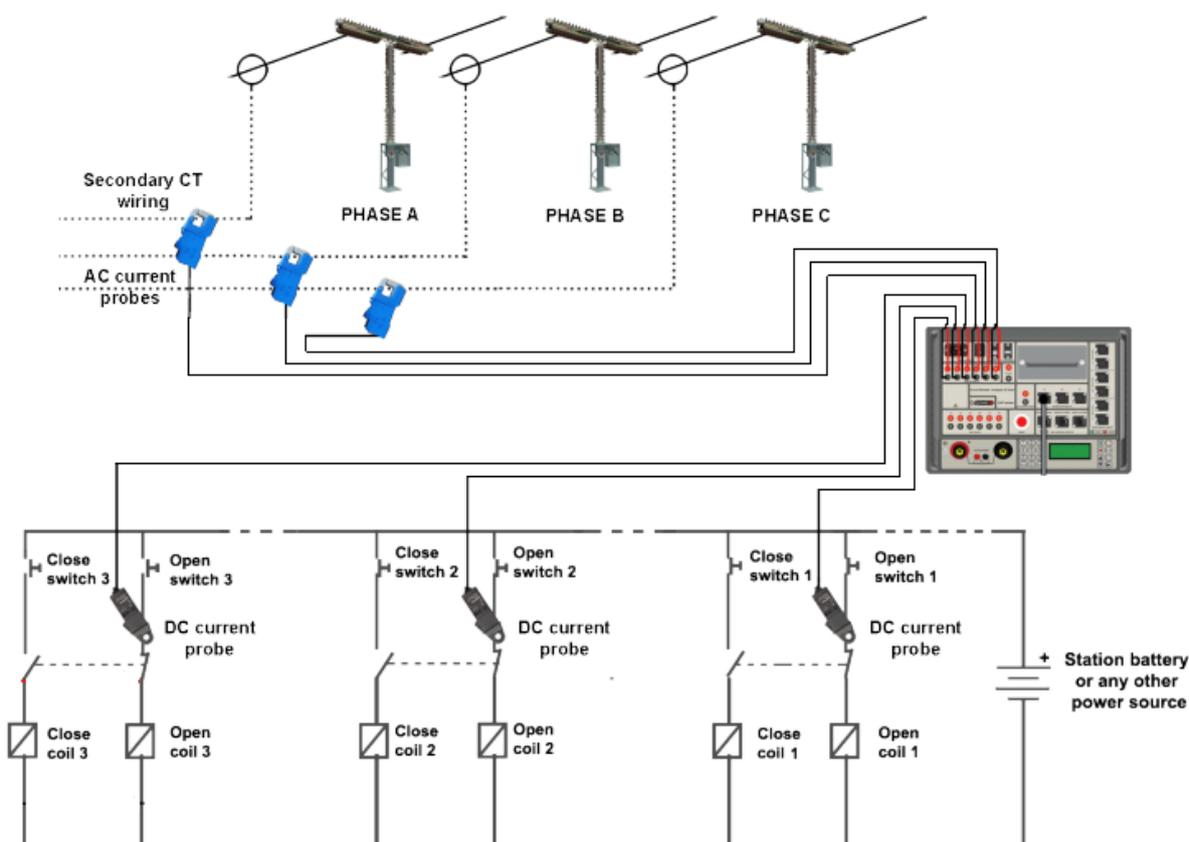
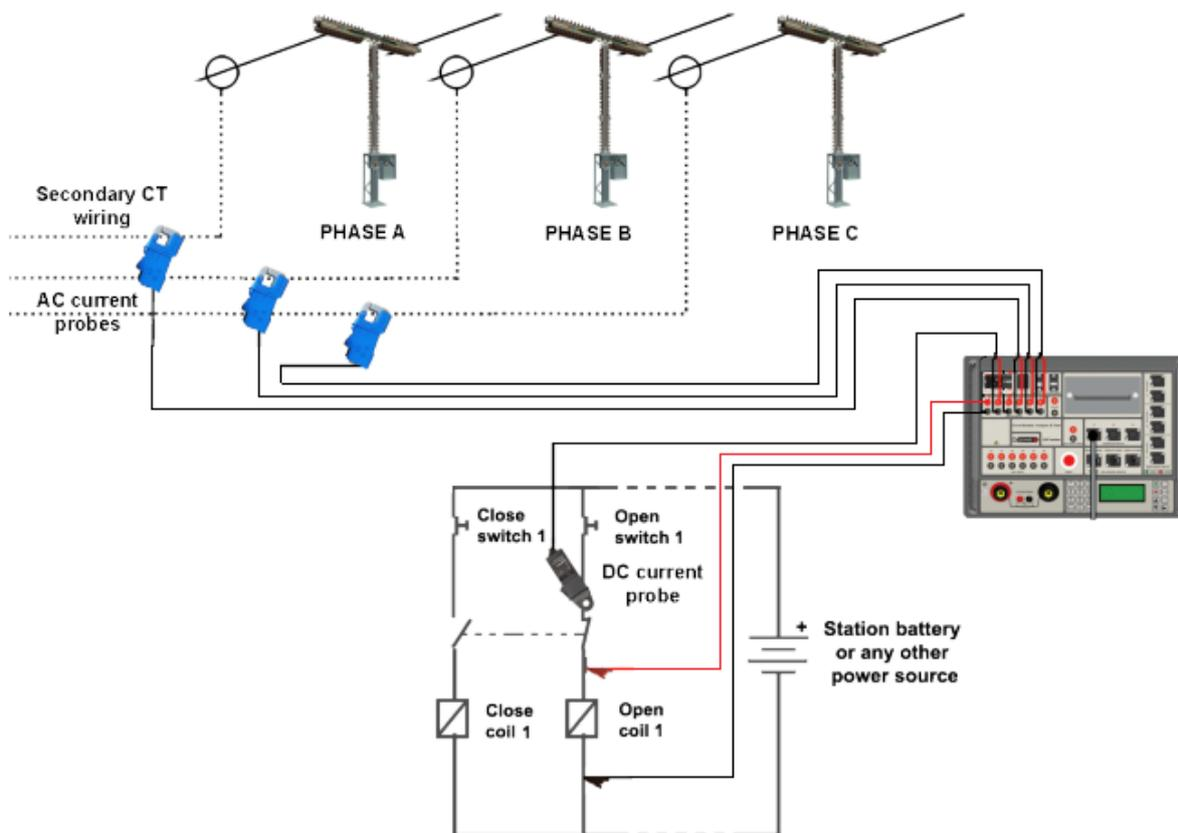

Figure 3. Connecting AC and DC current probes for “First trip” test
Figure 4. Connecting AC, DC current probes and coil voltage for triggering
All CAT II series models have capability to the record “First trip” test. These CAT devices have six analog channels, each channel with four voltage ranges (1 V, 5 V, 60 V and 300 V AC/DC). This allows simultaneous measurement of the coil current, battery voltage and main circuit current on the CT's secondary side (as shown in the Figure 3). Also, this provides a current measurement of each single opening coil individually during the “First trip” test on independent-pole operated circuit breakers (Figure 3).
Six analog channels available in CAT II series devices are used to record currents and voltages as well as for initiation of the measurement by an external voltage or a current signal. Coil currents are measured on the first three analog channels (Analog 1, Analog 2 and Analog 3) when using the Hall-Effect DC current probes connected to the coil circuit wiring as shown in the Figure 3 ). For the assessment of the main contact operation times,
currents of a current transformer (CT) secondary side are used. These currents are measured by AC current probes connected to the CT secondary wiring and other three analog channels (Analog 4, Analog 5 and Analog 6), as seen in the Figure 3. Substation battery voltage can be measured on any of the six analog channels (**Note:** This prevents a possibility of using that channel for the current signal measurement). By monitoring a battery voltage, the voltage drop can be assessed when a coil current flows. The battery voltage graph can indicate possible battery problems or wiring issues. Furthermore, a failure in rectifier can be observed, as well.
There are two modes of measurement triggering: on the opening (trip) coil current or on the coil voltage. For triggering on the trip coil current, it is needed to have DC current probes (which are used for coil current measurement) connected as shown in the Figure 3. For triggering on the coil voltage, it is needed to connect the voltage sense cable on any of the first three analog channels and to the opening coil, as shown in the Figure 4. The red wire of the voltage sense cable should be connected to the positive pole of the circuit breaker